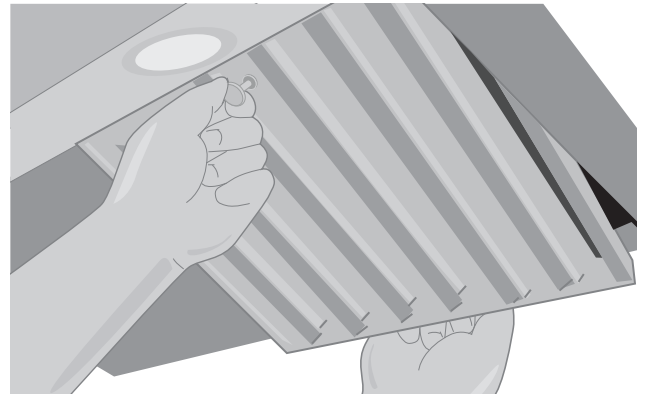

Figure 8
- Angle and insert one end of the filter into the upper channel of the range hood (Figure 8).